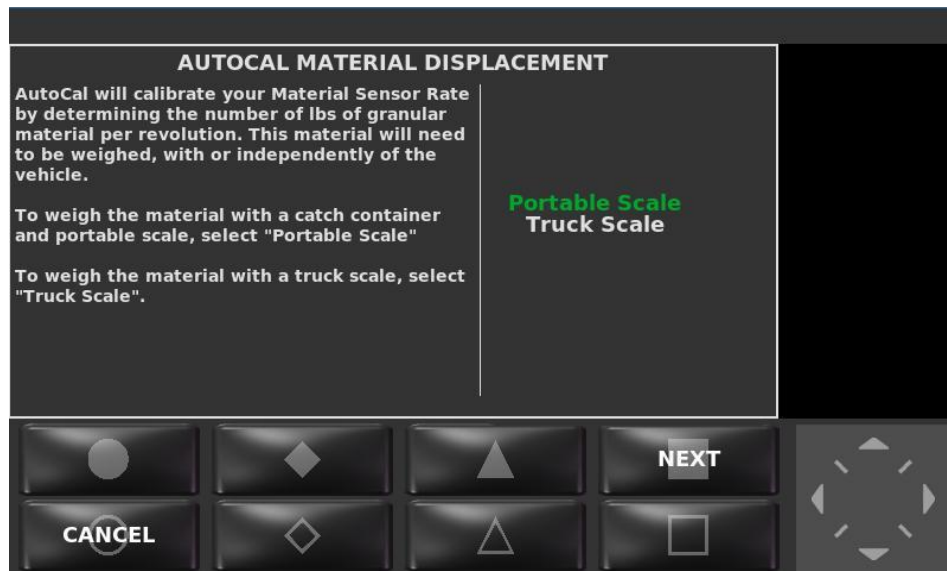

Figure 5: AutoCalibration Granular Material Displacement Wizard
- STEP 6: The AutoCal Displacement wizard will appear, as shown in Figure 5.